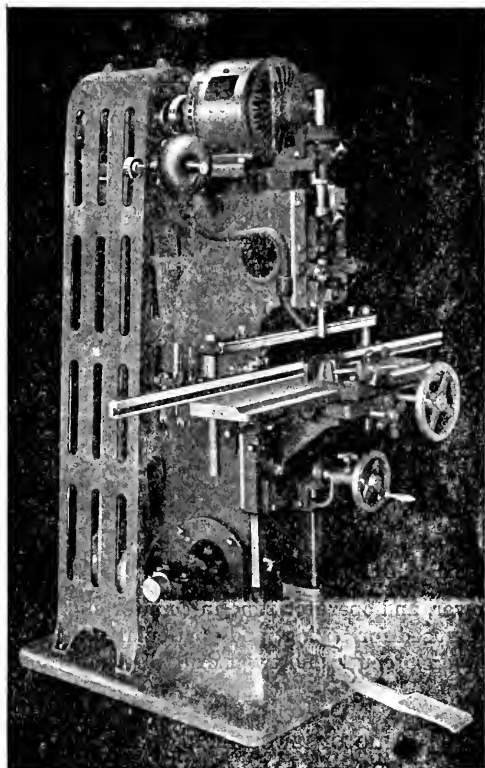

Fig. 46:- Automatic Vertical Mortiser; Motor D. C. Connection, enclosed switch and rheostat.
**47. Speed and Power--** A 2 to 3 H P. motor is required. The counter shaft should be run at a speed of 900 rpm. which will give the bit a speed of 3500 to 4000 rpm. Fig. 46 shows a D.C. motor connection with enclosed switch and rheostat. When ordering machines which are to have a motor base, it is necessary that the manufacturer be informed in regard to the make of motor which is to be used.